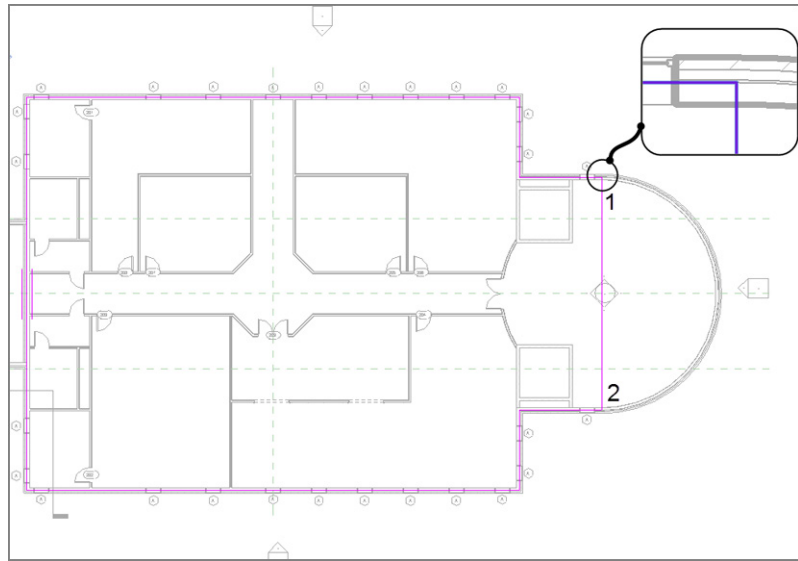

FIGURE 6.27: Sketching a line for the east portion of the entry slab
4. Draw a line from the endpoint of the magenta line at the north wall of the east entry (see 1 in Figure 6.27) to the endpoint of the magenta line in the south wall (see 2 in Figure 6.27).